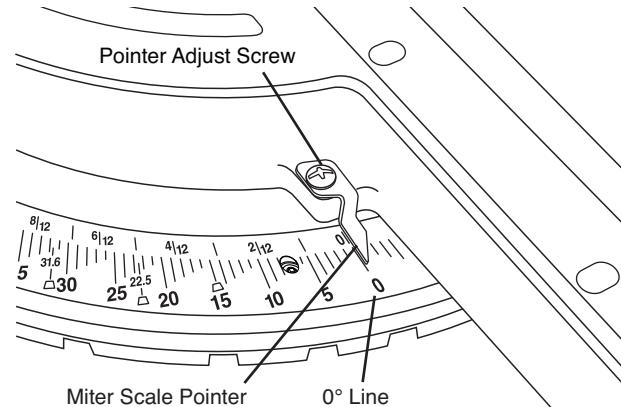

Figure 20. Miter Scale Adjustment
- Loosen the pointer adjust screw that holds the miter scale pointer in place (see Figure 20).